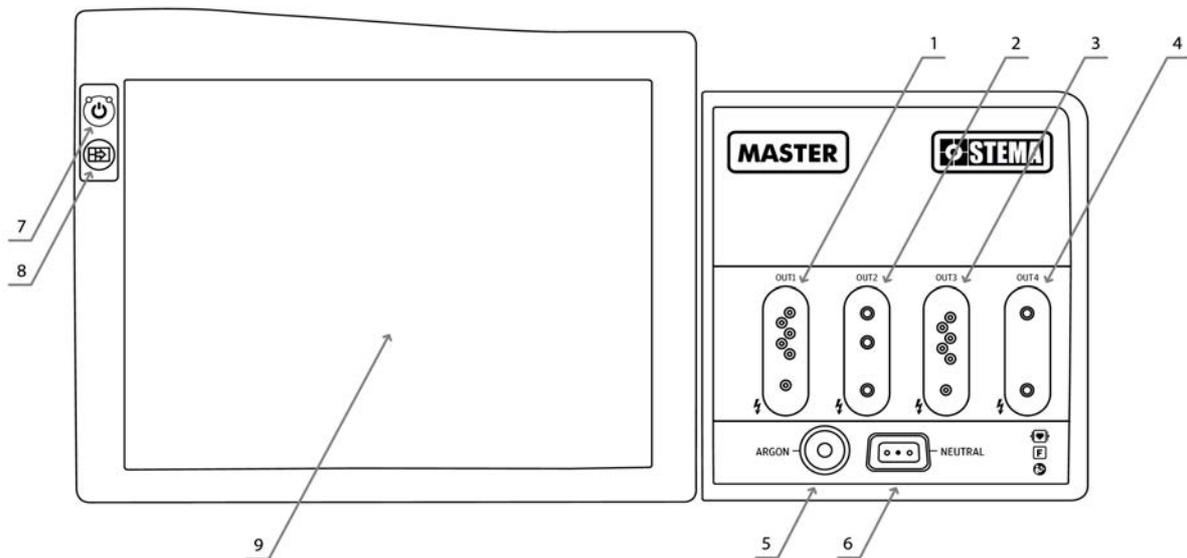
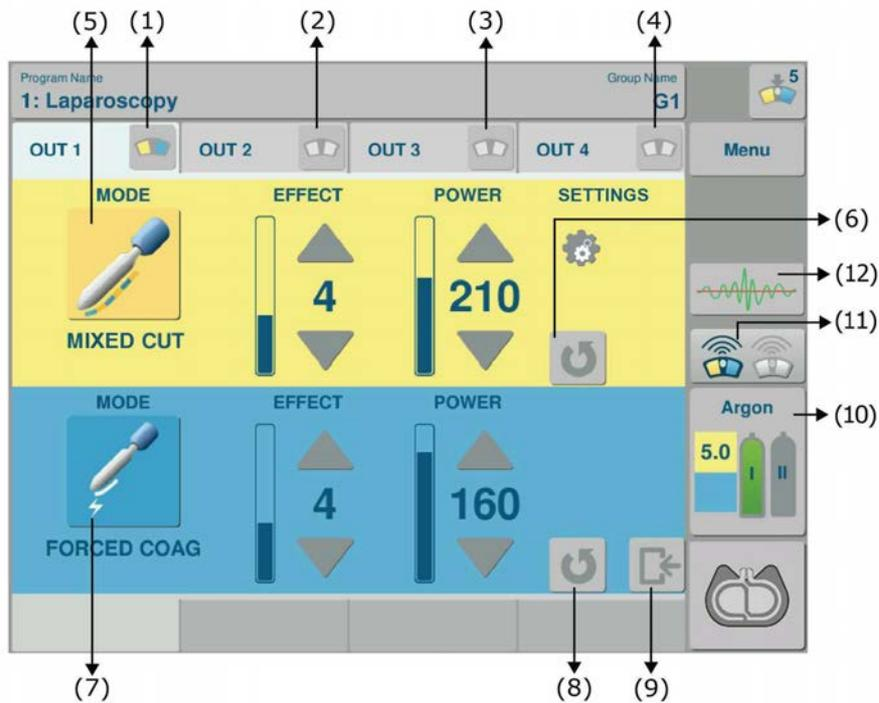

Figure 1. STEMA MASTER frontside view.
Figure 5. Panel view with two modes – cutting and coagulation.
The STEMA MASTER system has two universal SDS outputs with instrument detection (**Fig. 1 items 1 and 3**), one monopolar output (**item 2**) and one bipolar output (**item 4**).
The front panel of the STEMA MASTER system contains the following items (**Fig. 1**):
The system is equipped with four sockets (**Fig. 1 items 1, 2, 3, 4**). Each socket has an assigned control panel (**Fig. 5, items 1, 2, 3, 4**).
The detailed view of the control panel for a given output (**Fig. 5**) contains: